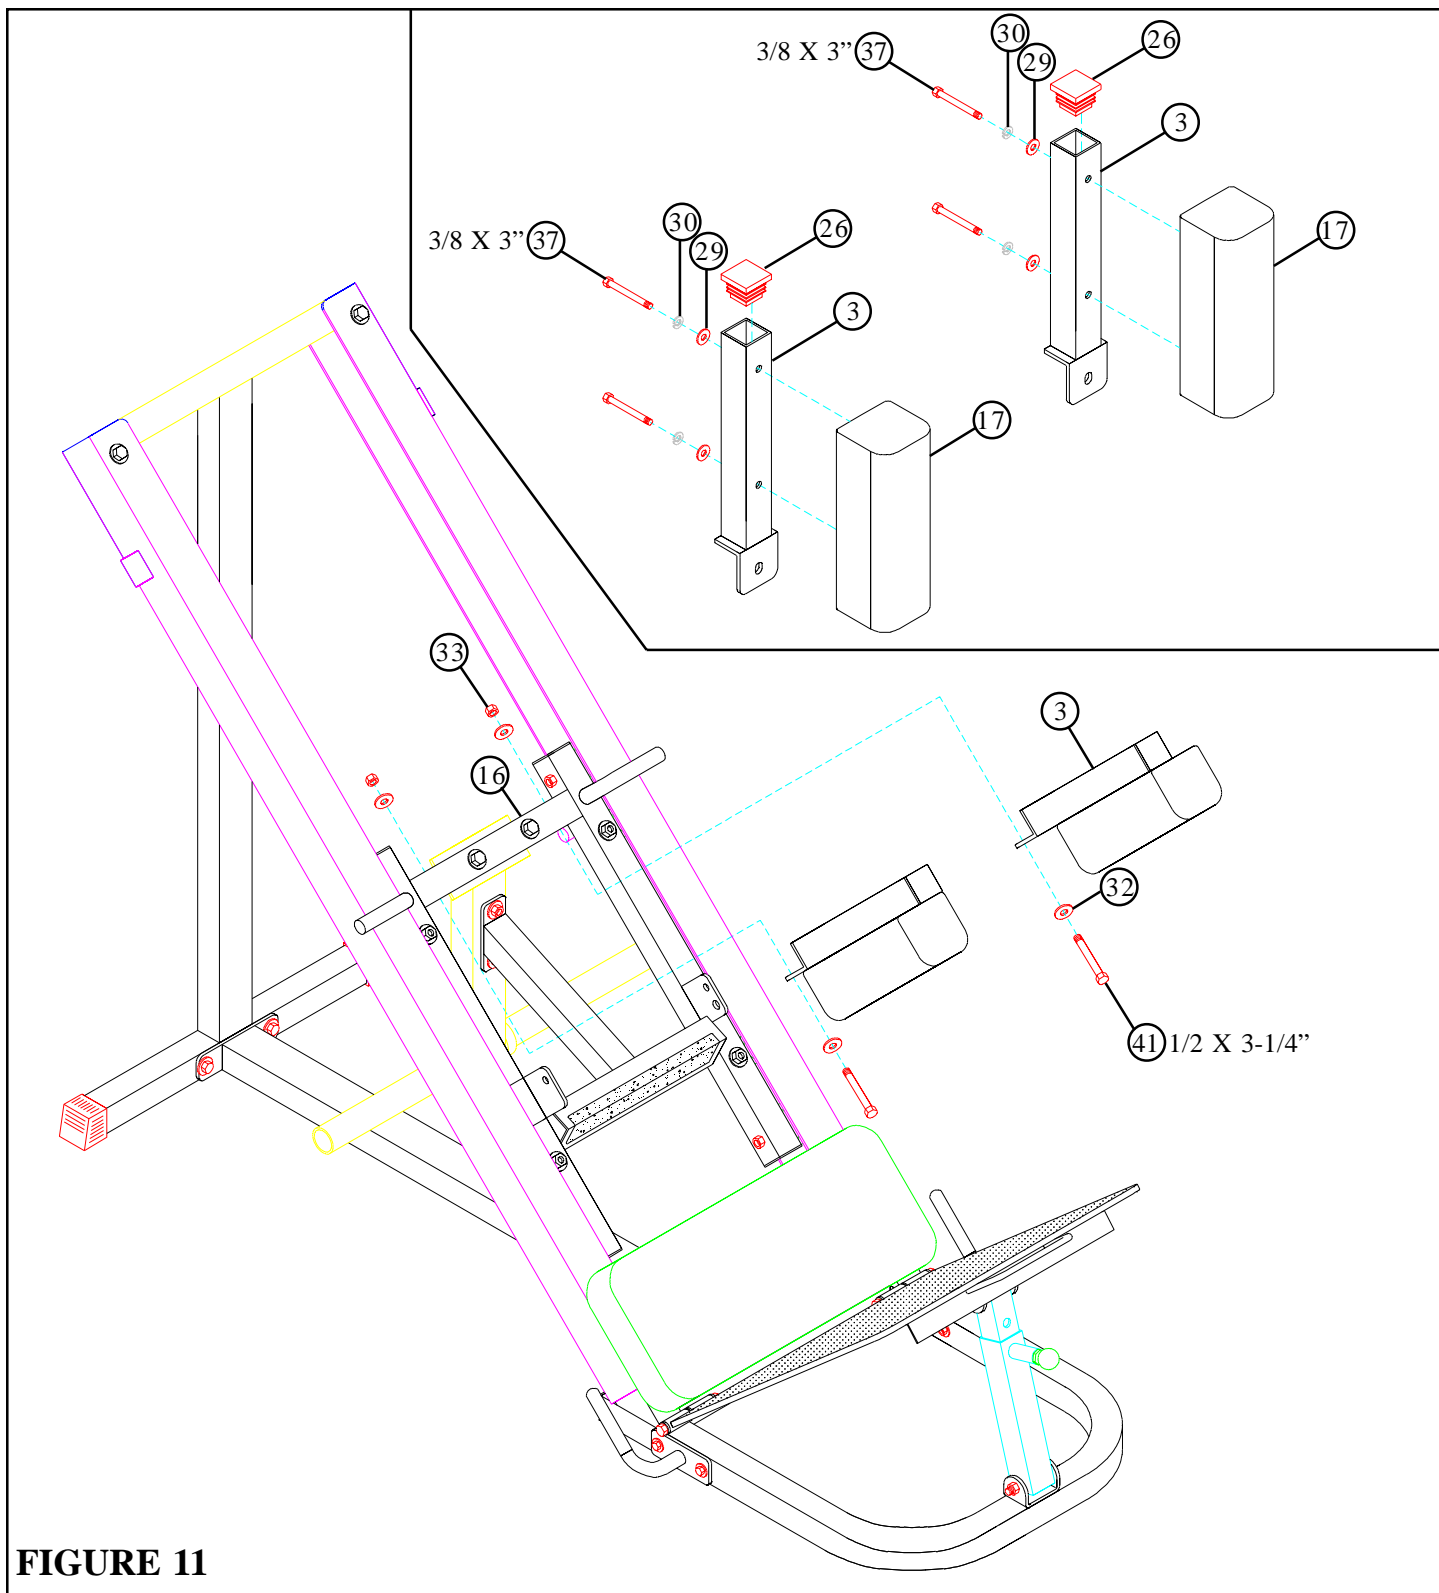

FIGURE 11
- Insert two 2" SQ. END CAPS (26) into the ends of each PAD SUPPORT (3) as shown in FIGURE 11.
- **SECURELY** assemble the two PAD SUPPORTS (3) to the CARRIAGE (16) as shown in FIGURE 11 using two 1/2 X 3-1/4" BOLTS (41), four 1/2" WASHERS (32), and two 1/2" LOCK NUTS (33).
- **SECURELY** assemble two SHOULDER PADS (17) to the PAD SUPPORTS (3) on the CARRIAGE (16) as shown in FIGURE 11 using four 3/8 X 3" BOLTS (37), four 3/8" LOCK WASHERS (30), and four 3/8" WASHERS (29).